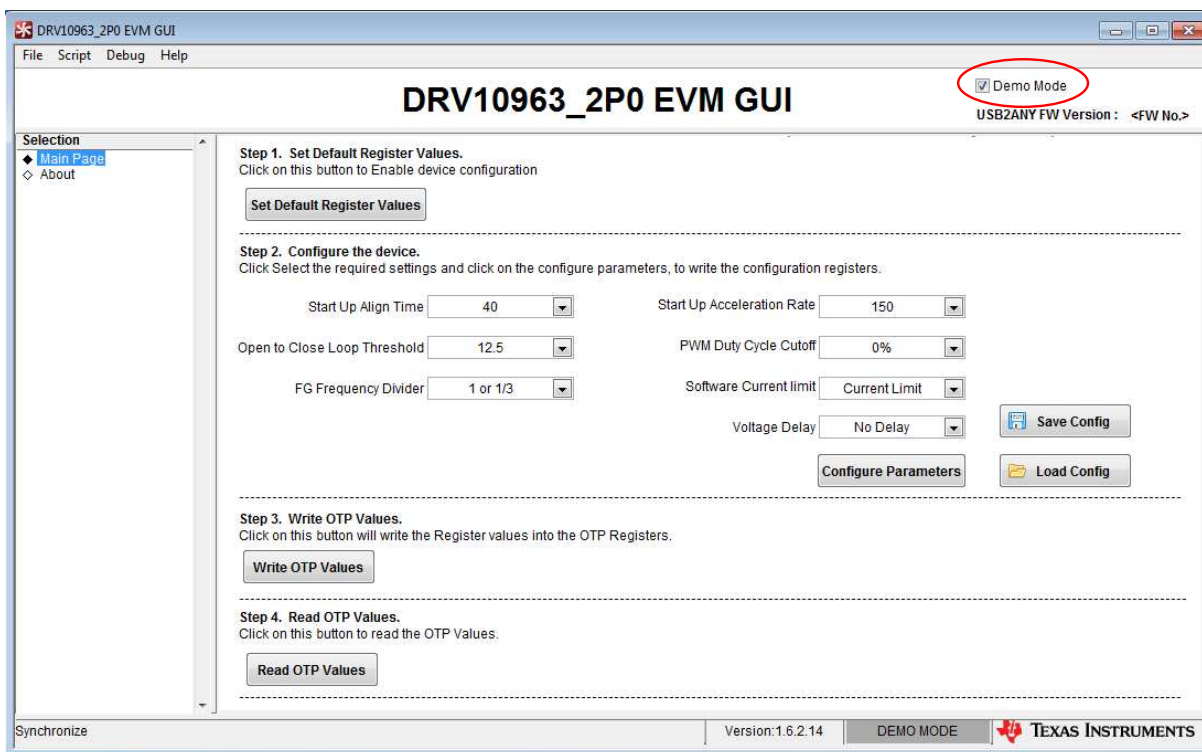

Figure 4. GUI Initial Screen With Demo Mode
1. Now launch the DRV10963EVM GUI by double clicking the DRV10963_2P0 EVM shortcut on the desktop. If "Demo Mode" is selected, the screen shown in Figure 4 appears, deselect "Demo Mode" to go to the next step.